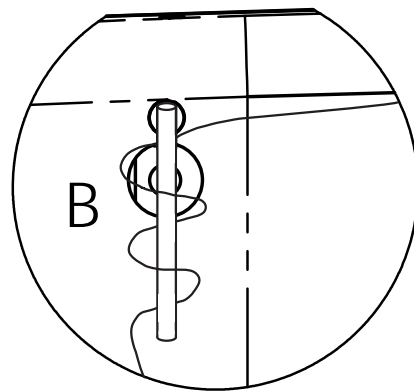

Figure 12
2. Continue to the three-hole thread guide B. Beginning at the top of the guide, wrap all three holes from back to front, handwheel side to needle side being careful not to cross threads (see Figure 12).